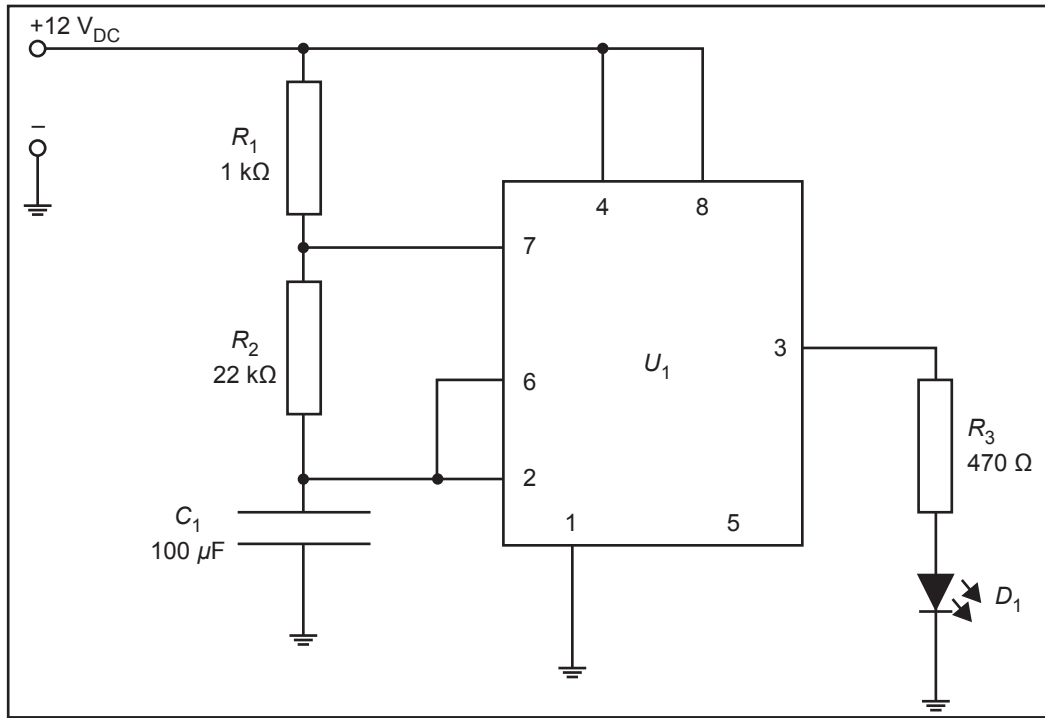

Figure 3
Figure 3 below shows the schematic diagram of an oscillator circuit.
- b. Series resistors R_1 and R_2 and capacitor C_1 in Figure 3 form a time-constant circuit. Assuming pin 7, pin 6 and pin 2 have infinite resistance with reference to ground, what is the time constant for the circuit? Show your working. 2 marks